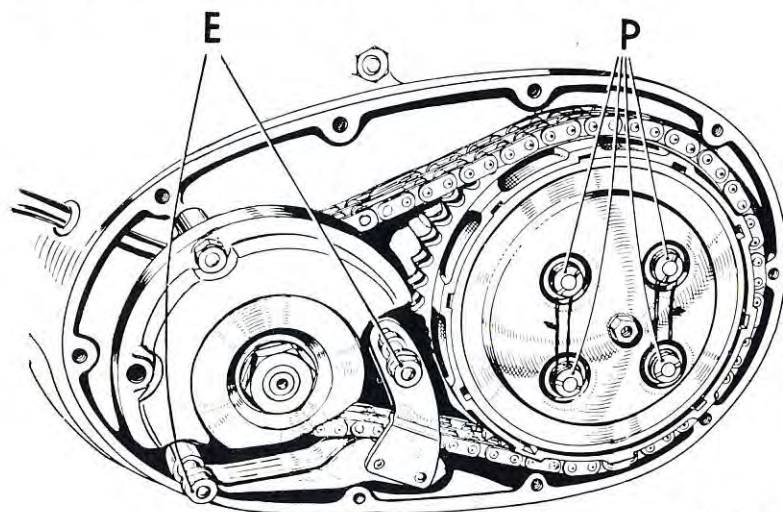

Fig. 5. Primary chain adjustment.
For adjustment of the chain, the cover must first be removed. When the two lower generator retaining nuts (E) Fig. 5 are slackened, the position of the slipper can be altered to give the correct tension.
Whenever the clutch has been dismantled, the spring pressure must be reset carefully. The four retaining nuts (P) Fig. 5, should be screwed in until the underside of the head of each nut is approximately $\frac{1}{16}$ in. from the face of a spring cup. The figure is an arbitrary one and it is a simple matter to vary it according to circumstances. If the springs are compressed excessively, the handlebar lever will be stiff to operate and tiring to the hand; alternatively, if the spring pressure is insufficient, the clutch will tend to slip.